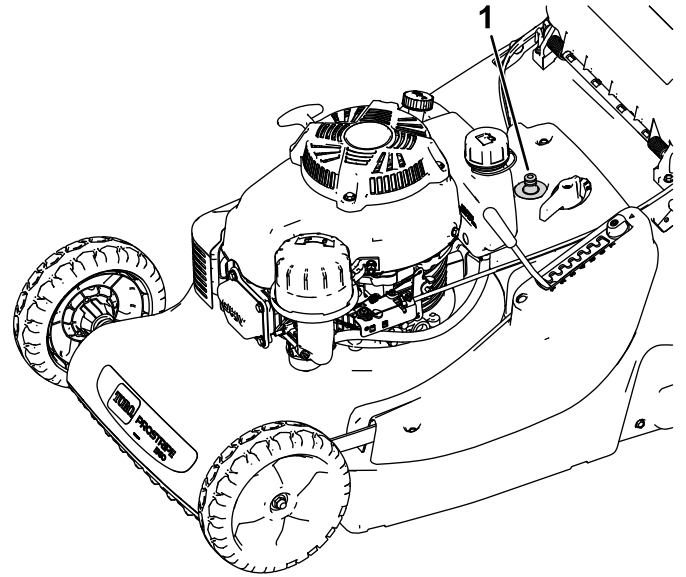

Figure 21
7. Attach a garden hose that is connected to a water supply to the washout port (Figure 21).